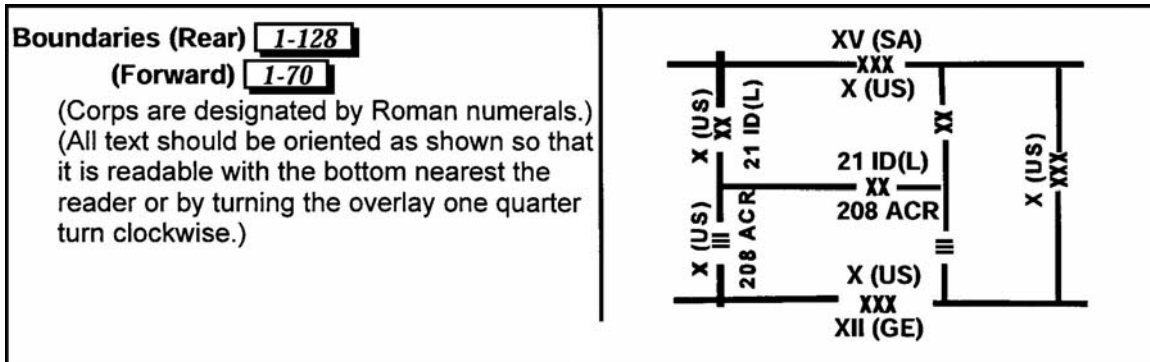

Figure 071-332-5000-1
- (3) If a rear boundary is shown, the size indication along the boundary corresponds to the lower unit. Arm or branch is shown when required to prevent confusion (Figure 071-332-5000-1).